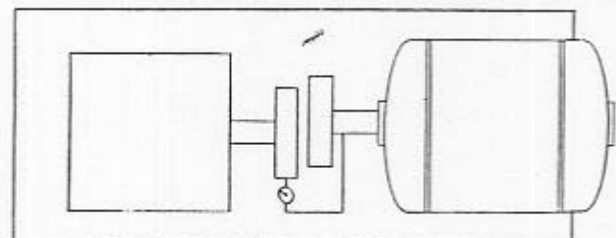

Fig. 4-1 Rim Side to Side
1. Mount a dial indicator rigidly on the driver half of the coupling and set the indicator button on the rim of the pump half (Fig.4-1).